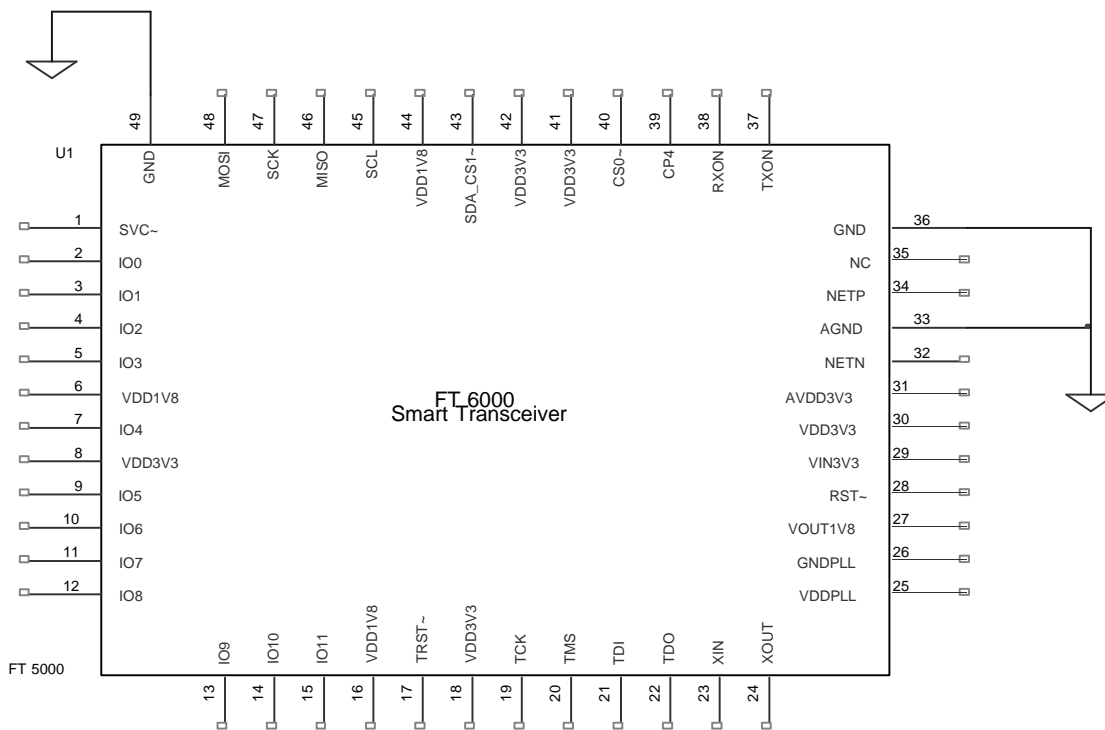

Figure 12. Connections for the Ground Pins
Connect the chip's pad (pin 49) to logic ground. Also connect the **AGND** pin (33) to logic ground. **Figure 12** shows the connections for the ground pins.